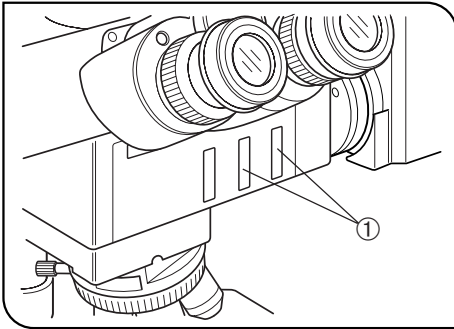

Fig. 15
(Fig. 15)
⊙ Engage the optimum filter sliders for the purpose of observation in the two filter insertion slots ①. Be sure to insert them in the direction shown in Fig. 15.